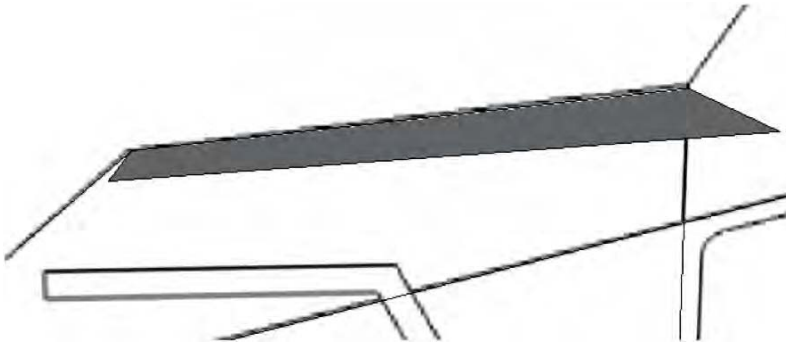

Figure 8-13. *Aligning the surface with the slant of the hood*
3. Select the surface over the hood, and using the Rotate tool, move it so that it is in parallel with the slant of the hood. Now the surface of the hood is in alignment (Figure 8-13).